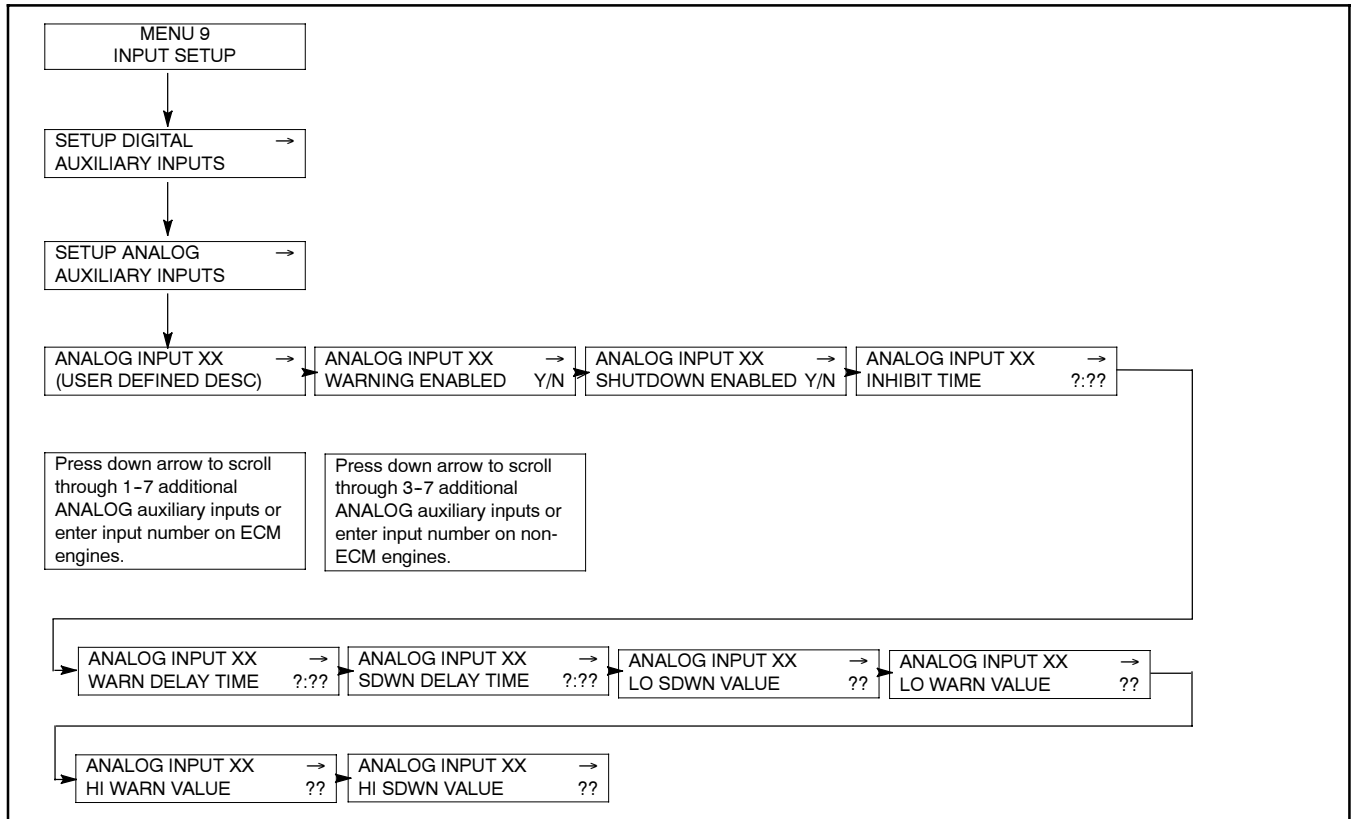

Figure 3-13 Menu 9, Input Setup
1. Wire the potentiometer according to Figure 3-13.
1. After entering the analog input in menu 9, enable or activate the input as a warning and/or shutdown. If neither is selected, the input displays data but no action is associated with the input. See Figure 3-13.